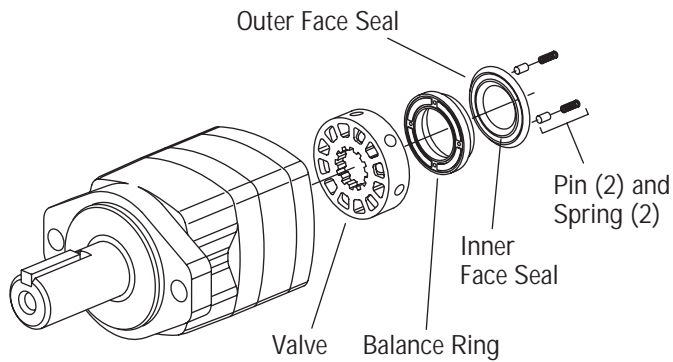

Figure 5
- 6 Remove 2 pins and 2 springs from balance ring assembly, see Figure 5.